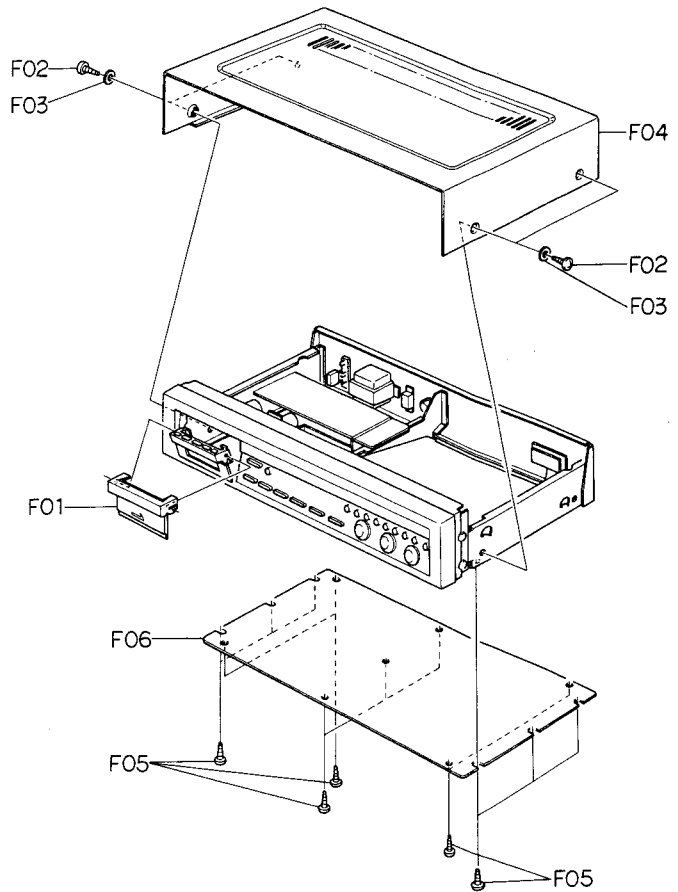

Fig. 3.1
Refer to Fig. 3.1.
- (1) Refer to Fig. 3.1. Remove Top Cover Ass'y and Bottom Cover Ass'y referring to items 3.1 and 3.2.
- (2) Remove F01 (Volume Knob) by pushing with a screwdriver or similar tools from the inside of the N-580.
- (3) Remove F02, then disassemble F03 (Front Panel Ass'y including 2 connectors).
- (1) Refer to Fig. 3.1. Remove Top Cover Ass'y and Bottom Cover Ass'y referring to items 3.2 and 3.3.
- (2) Remove F01, F02 and F03, then disassemble F04 (Rear Panel Ass'y).
- (2) Remove F05, F06 and F07, then disassemble F08 (Power Transformer).